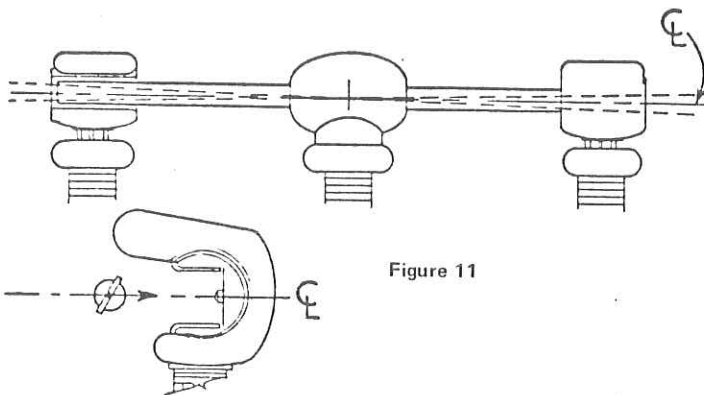

Figure 11
1. The blade must enter each jaw on a horizontal plane. It also must enter each jaw centrally, without dragging on either the upper or lower jaw contact surface. (Figure 11) Misalignments can be corrected by using the jack screws on the insulator that supports the jaw to raise or lower the jaw as necessary to permit central entry of the blade.